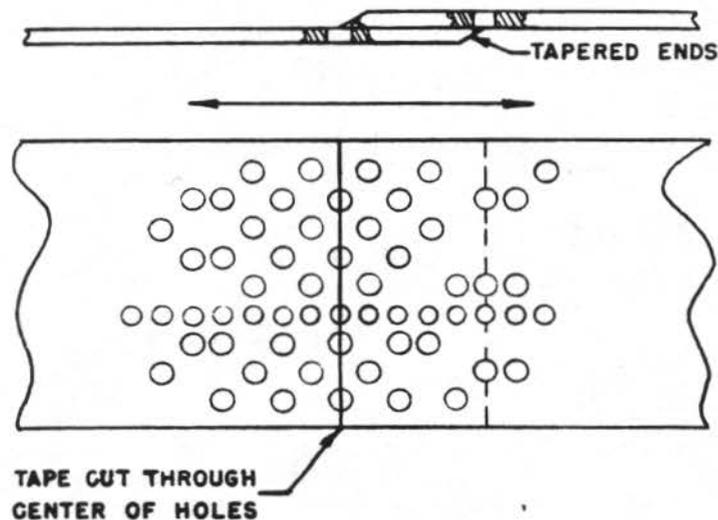

Figure 18. Bi-directional Tape Splice
- a. The tape should be cut straight across through the center of the sprocket hole as shown in Figure 18. This permits the star wheel to slide into the perforation properly, or if no perforation exists, the star wheel will roll over the splice and yet be in position to read a character on the next step. Allow approximately 1/2 inch for splice overlap.